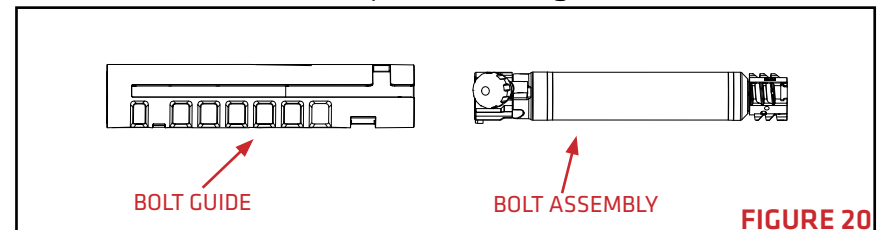

FIGURE 20
1. Remove the bolt assembly from the bolt guide (**FIGURE 20**).